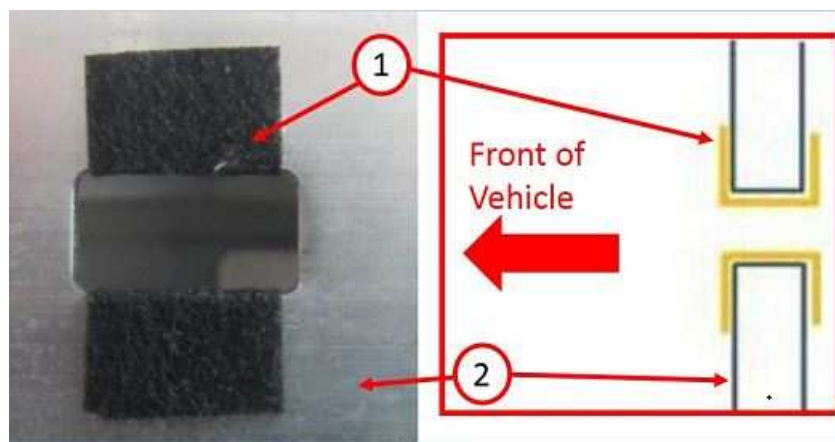

Fig. 10
15. Attach the eight pieces of fabric sheet to the four square holes of the seat back crossmember (Fig. 10) .